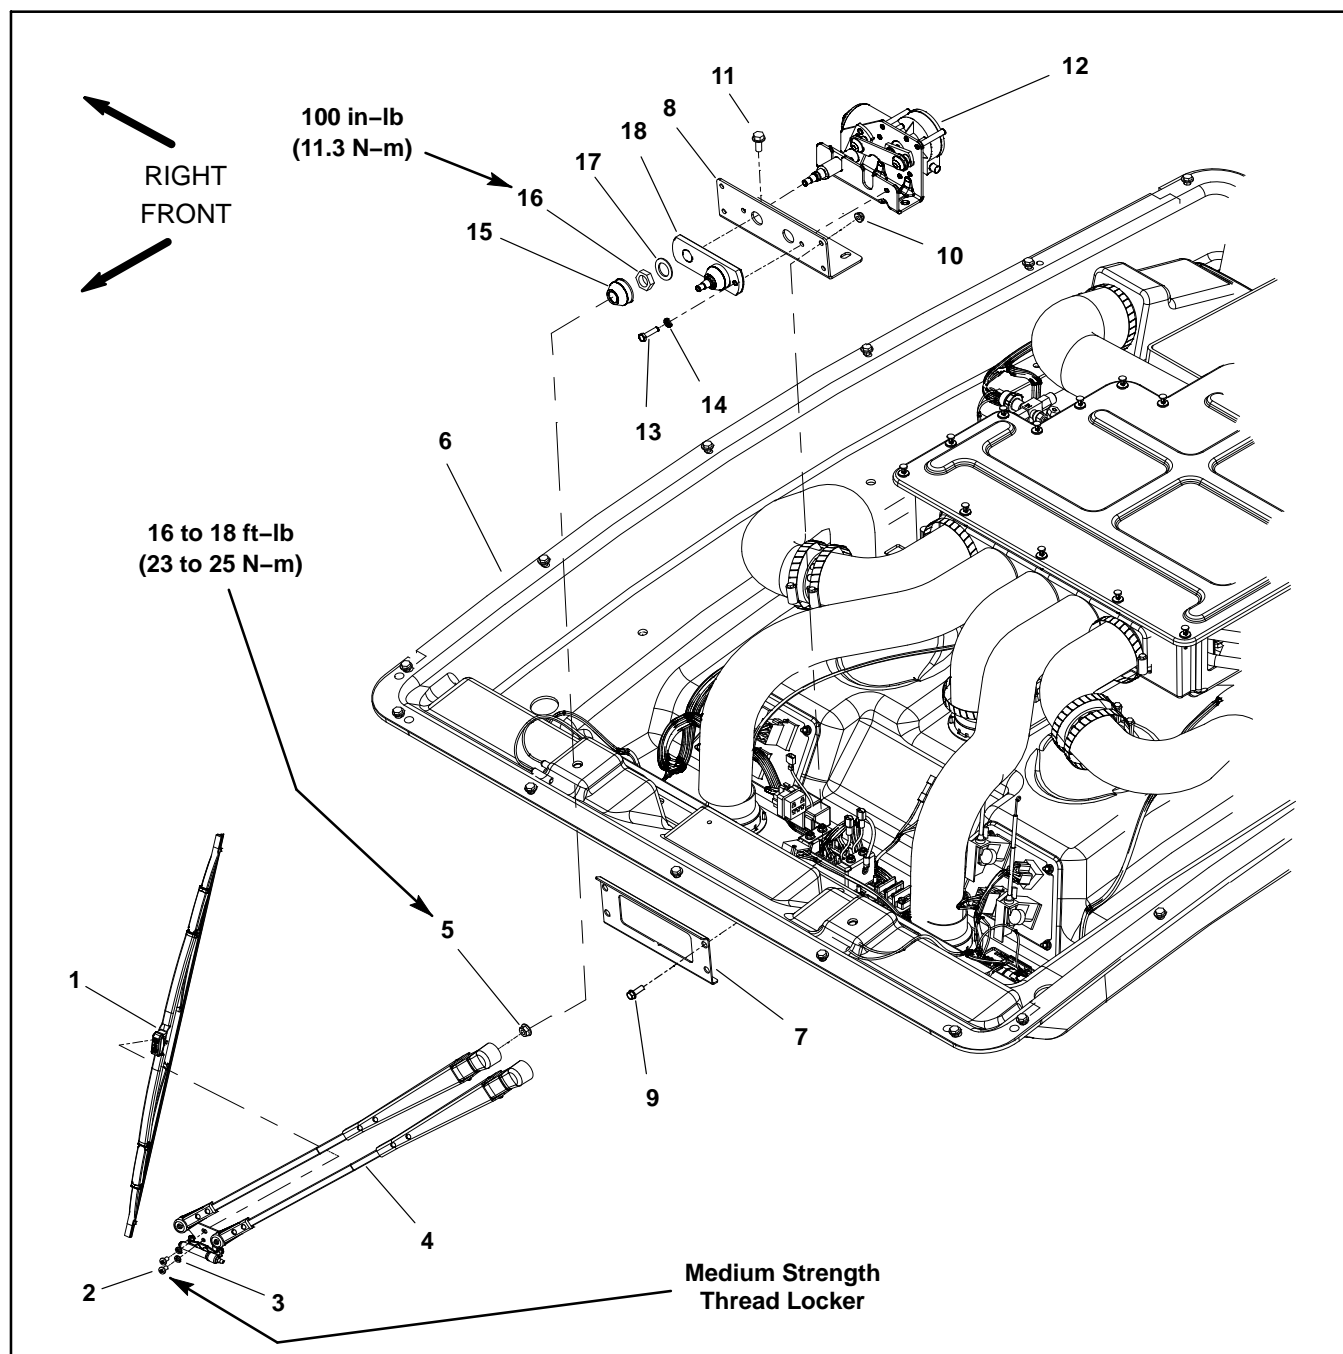
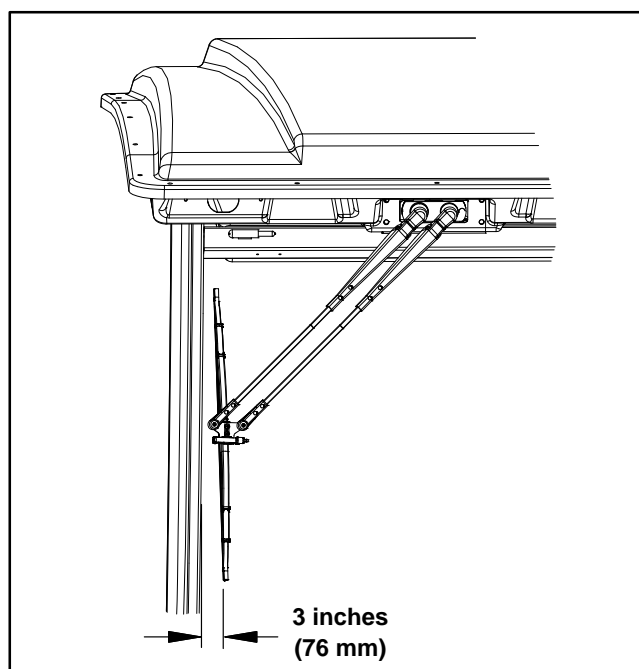

Figure 16
Figure 17
Disassembly (Fig. 16)
2. To remove wiper blade, remove two (2) cap screws and lock washers that secure wiper blade to wiper arm assembly.
4. If access to wiper motor is necessary, remove roof panel from top of cab to allow access to wiper motor assembly (see Roof Assembly in this section). Remove wiper motor components using Figure 16 as a guide.
Assembly (Fig. 16)
1. If required, install removed wiper motor components using Figure 16 as a guide.
- A. If wiper bracket (item 8) was removed, apply bead of RTV sealant around wiper opening on inside of headliner before installing bracket.
- B. If jam nut (item 16) was removed, torque jam nut to **100 in-lb (11.3 N-m)** during assembly.
2. If wiper blade was removed, apply medium strength thread locker to threads of cap screws (item 2). Secure blade to wiper arm assembly with two (2) cap screws and lock washers.
- B. Run the wiper motor for one (1) cycle to allow the motor to return to the normal OFF position.
- C. Slide wiper arm sockets onto wiper motor shafts so that the bottom of the wiper blade is 3 inches (76 mm) from the right side window trim (Fig. 17).